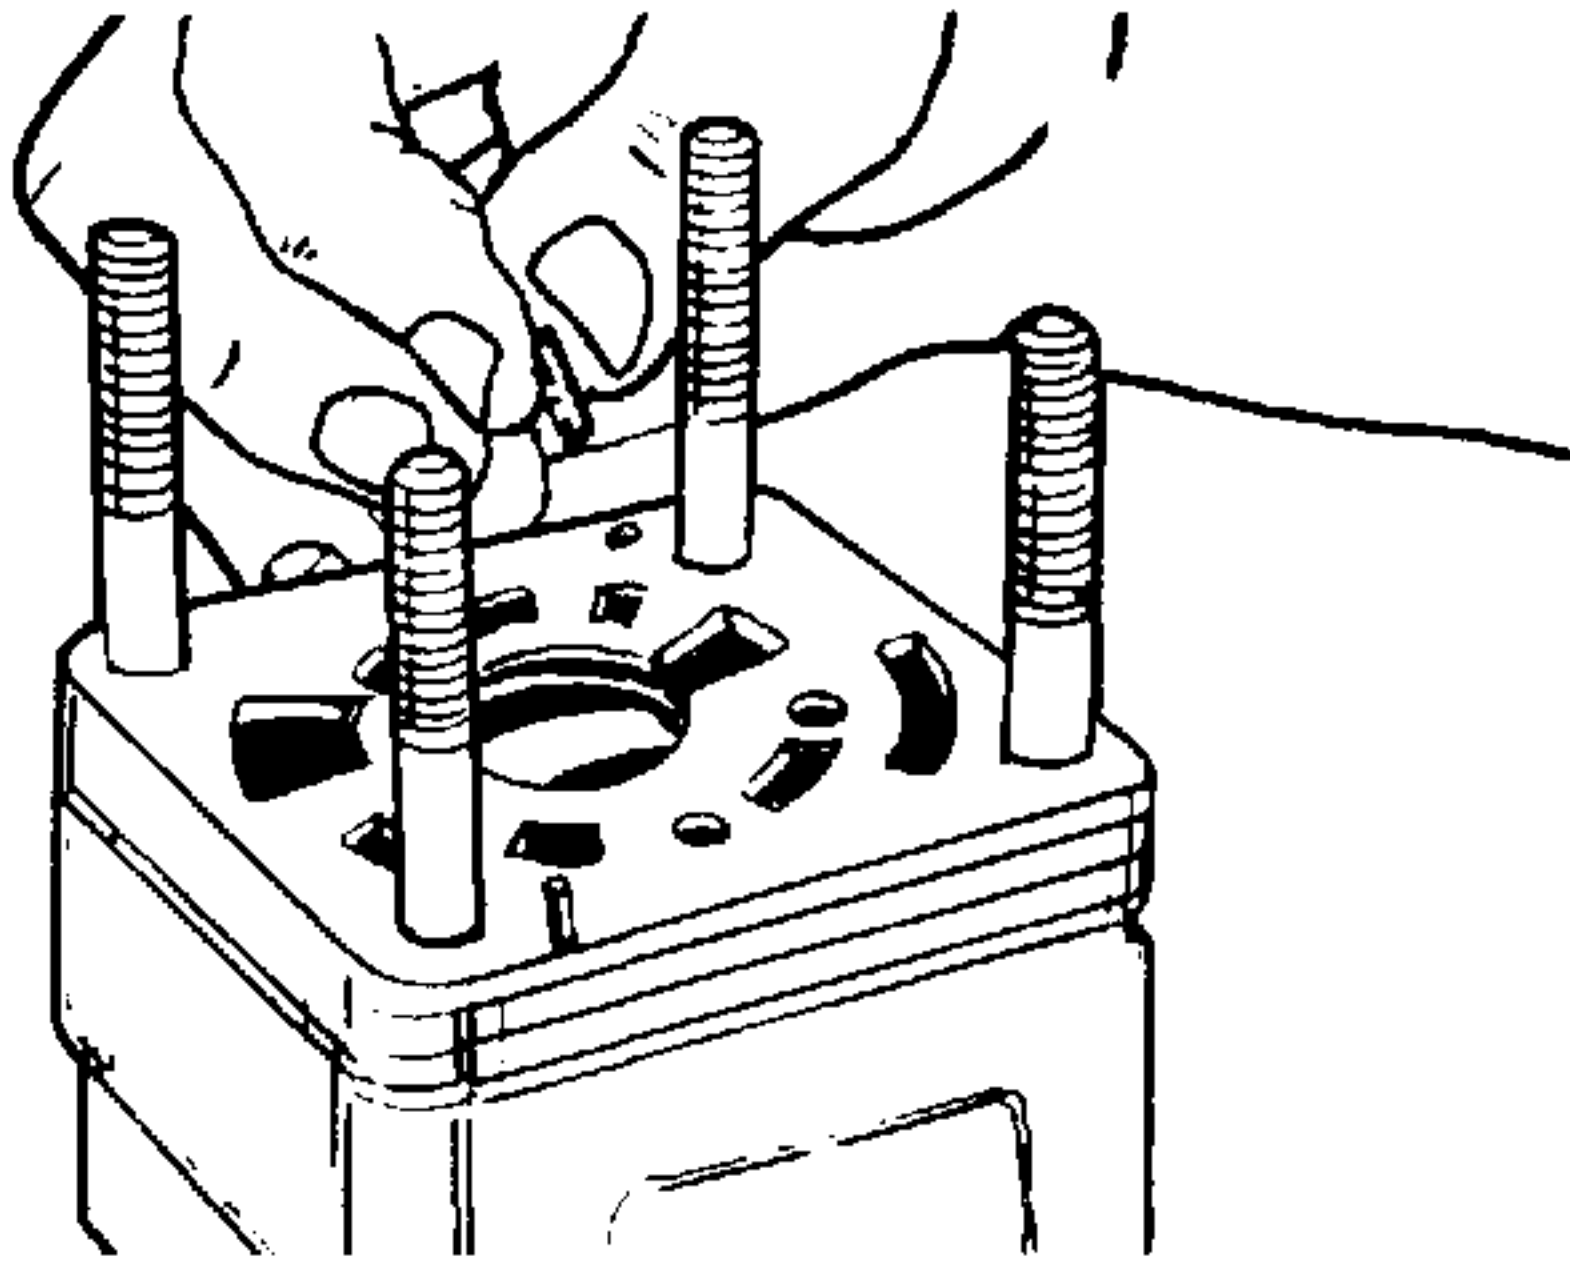

Figure 4-78. Installing Needle Rollers.
30. Install two needle rollers (11, Figure 4-1) into the isolation manifold (13). See Figure 4-78.